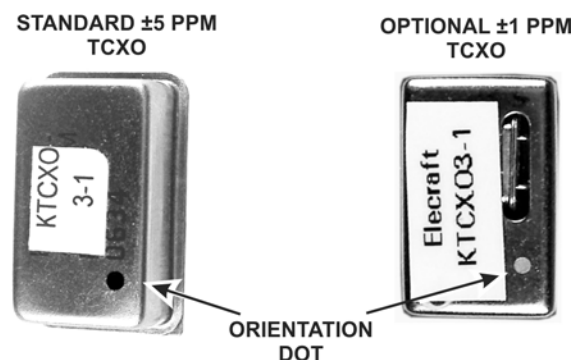

Figure 67. TCXO Modules.
- Locate the Temperature-Compensated Crystal Oscillator (TCXO) module. If you ordered the optional  $\pm 1$  ppm TCXO it will be supplied *instead* of the standard 5 ppm module (see Figure 67).